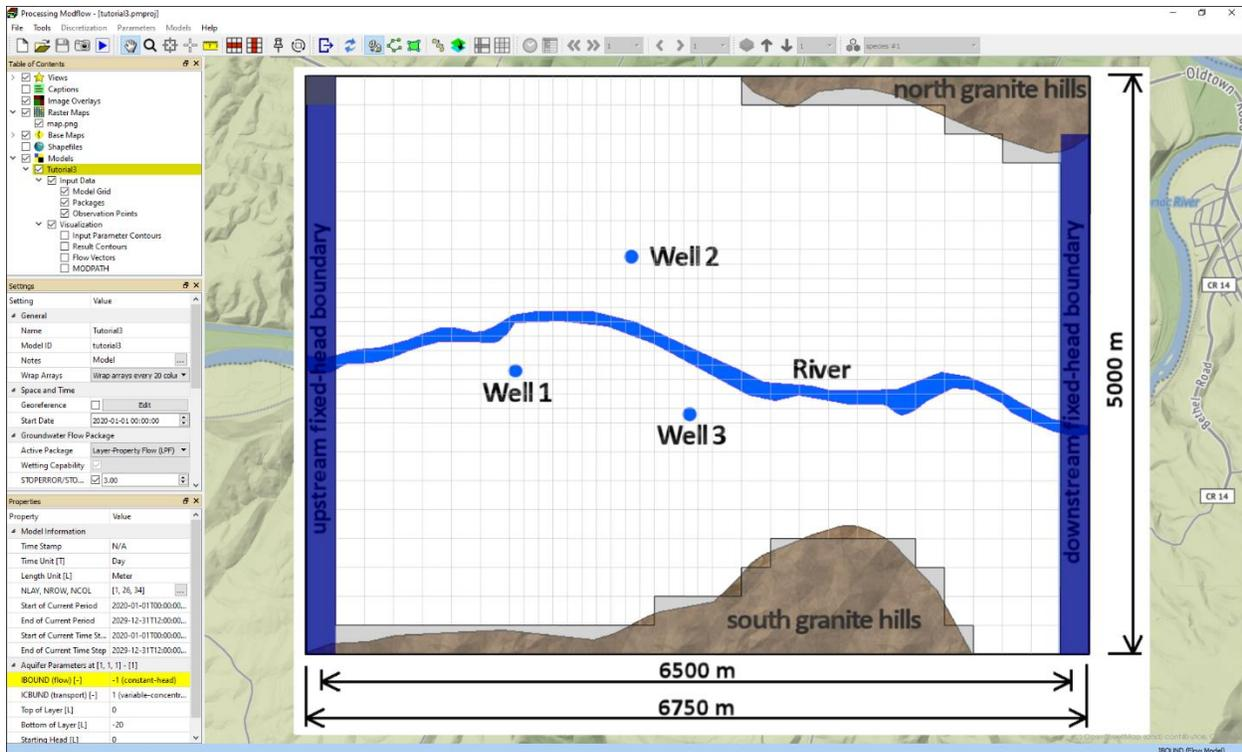

Figure 9. Model grid with the constant head and no-flow cells
4. Assign -1 (constant head) to the western boundary from the cell [1, 1, 1] to the cell [1, 26, 1], and to the eastern boundary from the cell [1, 3, 34] to the cell [1, 26, 34]. The model grid should look like Figure 9.